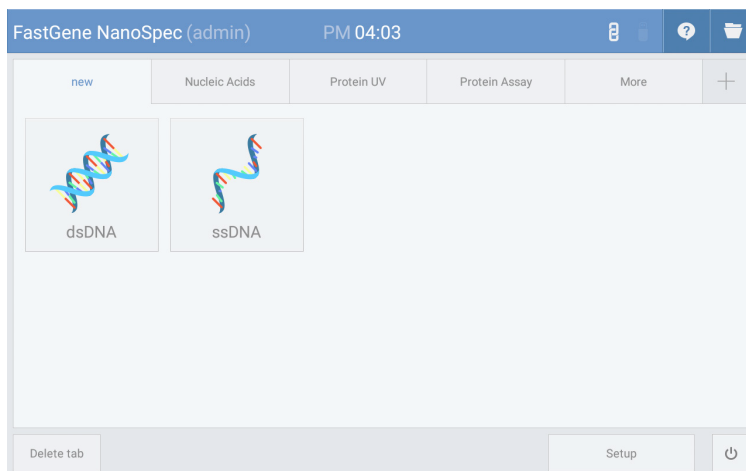

Fig. 1.5
4. [Fig. 1.5] Click the “Delete user menu” button at the bottom of the screen to delete a user menu.